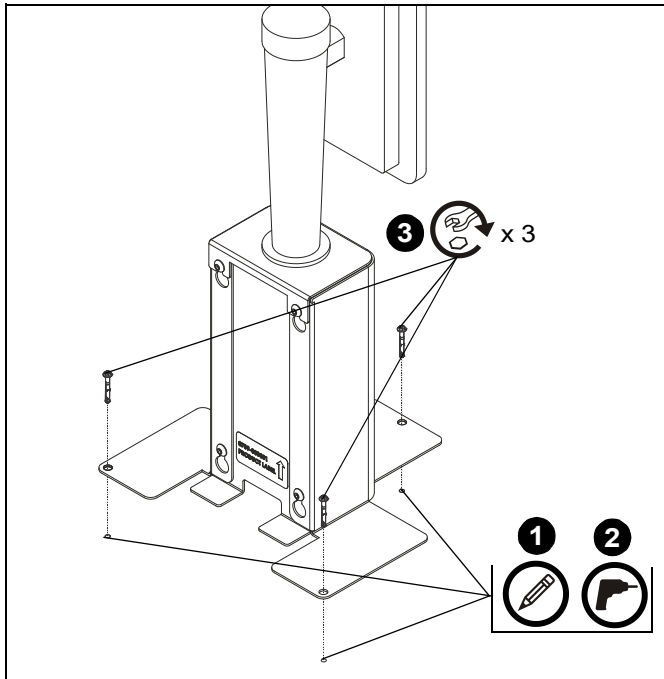

Figure 4
2. Drill holes at marked locations according to instructions of hardware being used for installation. (See Figure 4)
3. Use hardware (not included) to secure base plates (D) to floor. (See Figure 4)